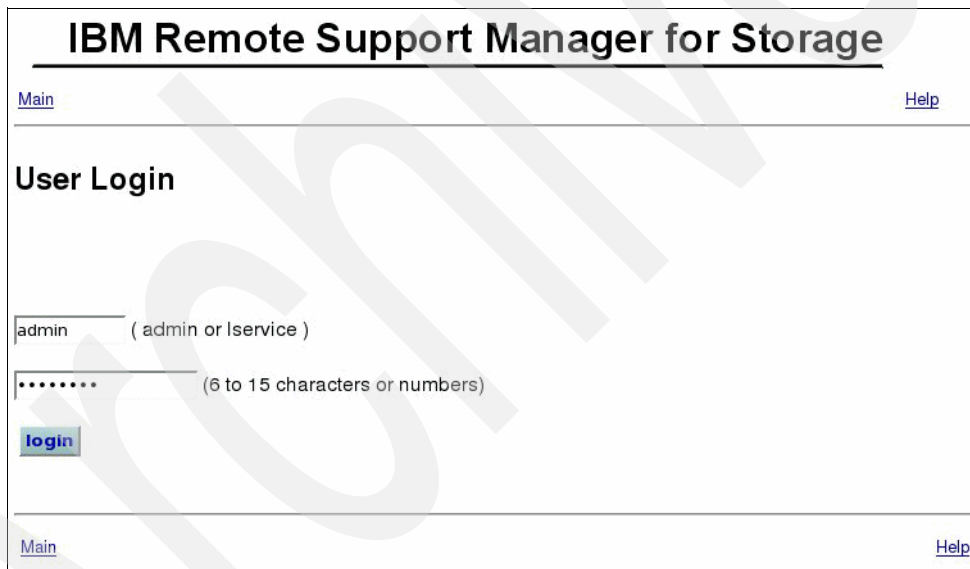

Figure 15-4 RSM logon window
2. Enter the user name and password of the RSM administrator. This account is named admin and the password was defined during the installation of RSM. See Figure 15-4.